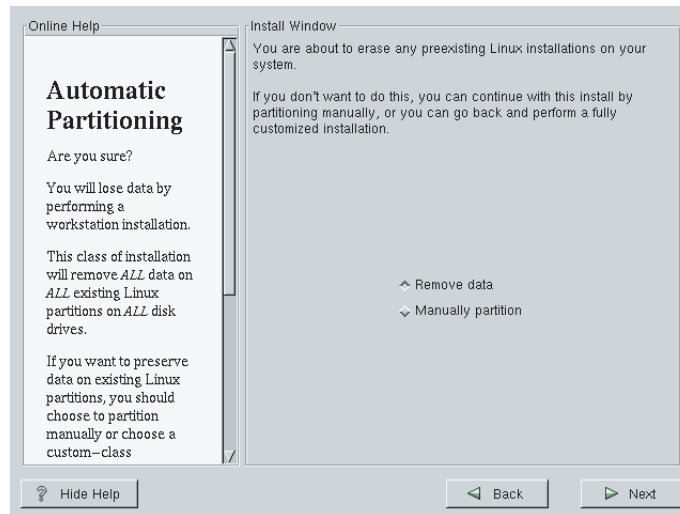

Figure 1-2 Install Window Options
12. Click the `Manually partition` option button in the `Install Window`; click `Next` to continue (refer to Figure 1-2).